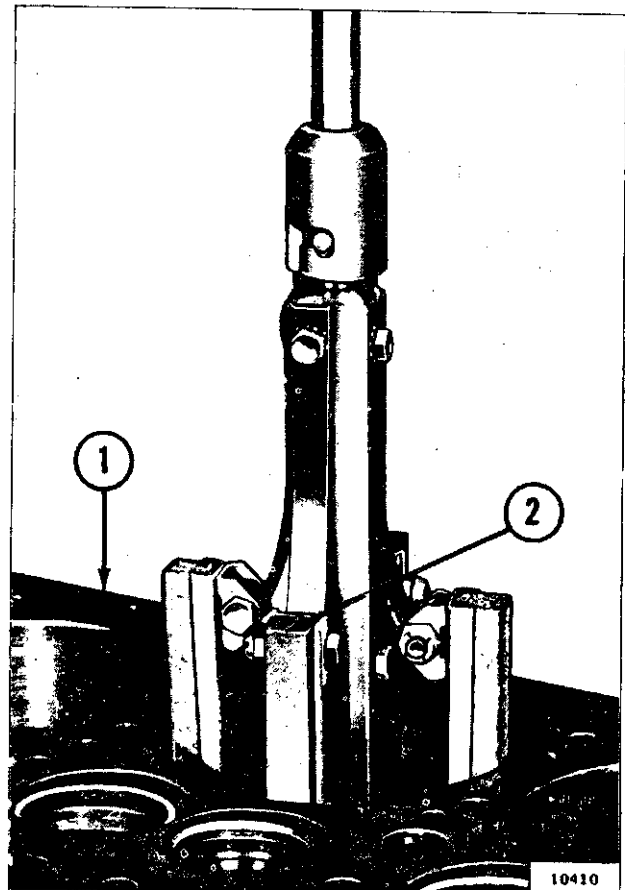

FIG. 34—HONING CYLINDER BORE
b. If bore measurements are within the above limits, but indicate hollows or waviness, cylinders should be honed with 250 grit stones as shown in Fig. 34. Pump hone up and down in cylinder while it is rotating to produce a satin-finish, diamond cross-hatched pattern approximately 30° with horizontal. Hone only enough to correct waviness.